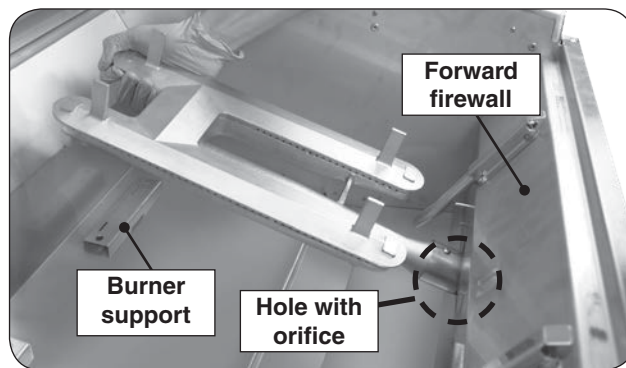

Fig. 39-3 Remove burners
3. Carefully lift the burner from the burner support and out from the hole in the forward fire wall. See Fig. 39-3.